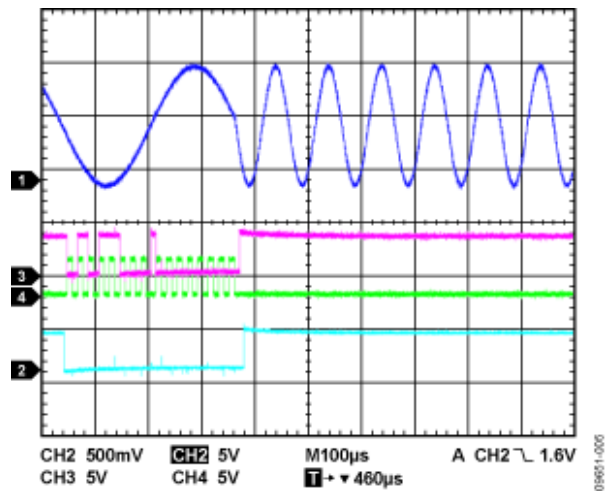

Figure 5. Change FSELECT Bit--0x5800
- A 1 written to Bit D11 to select the FREQ1 register (see Figure 5).